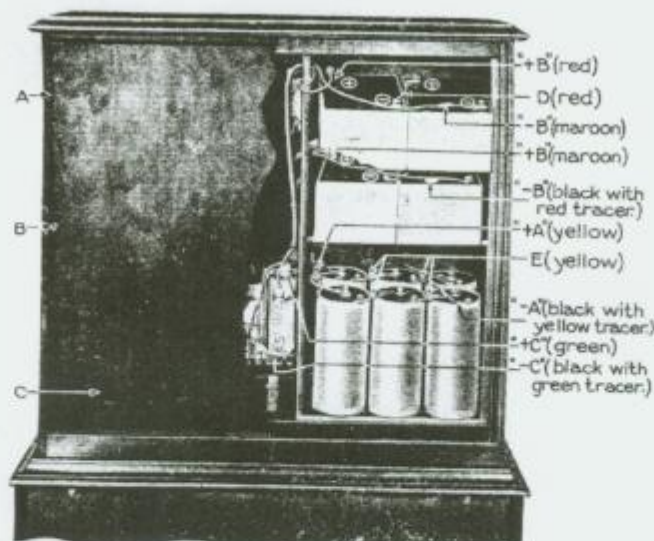

Fig. 1. Rear View, Showing Battery Connections
Installing Batteries. Access to the battery rack is secured by removing the two screws B (Fig. 1) (found at the center on the left- and right-hand sides of the upper panel A, on the rear of the cabinet)—which releases the panel. Place two fingers in the thumb holes C, raise the rear panel, pushing it farther into the slot in the top of the cabinet, then pull on the panel releasing the lower end, which permits the panel to drop down free from the set.
(A) Place the six dry cells in the lower compartment, three in the back row and three in the front row, taking care that the outer binding posts of all cells point in the same direction. Connect the batteries in two parallel groups, each of three cells in series, as shown in Fig. 1, using the four short yellow connectors E.